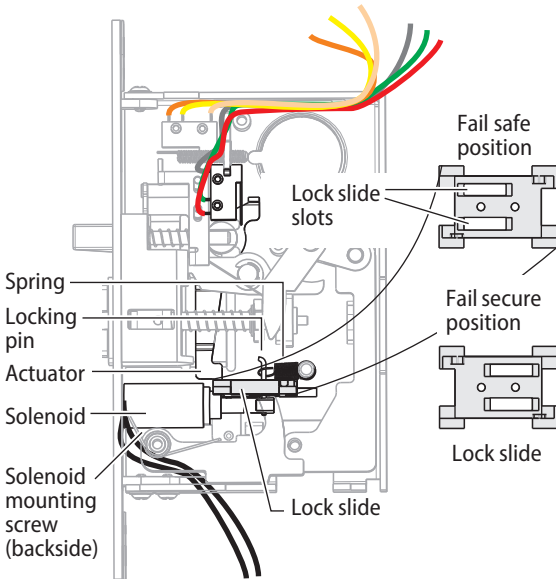

Figure 7 Converting fail safe/fail secure, LSEM303 shown
- 1 Remove the solenoid mounting screw (located on the back side of the view Figure 7).
- 3 Disconnect the spring and remove the lock slide and solenoid. See Figure 7.
Note: Ensure that the actuator is engaged in the lock slide notch. See Figure 7.
- 8 Check the operation according to Figure 7.